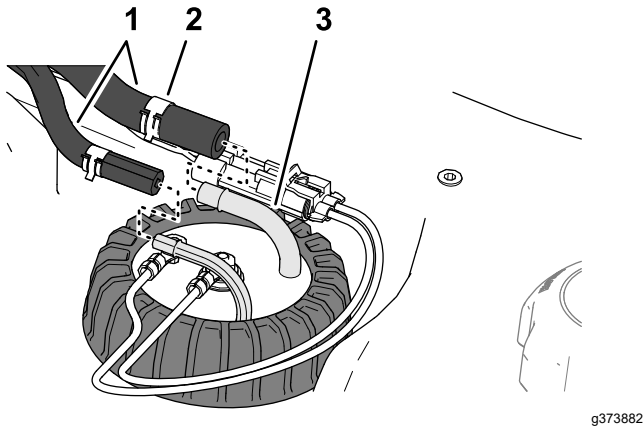

Figure 125
4. Move the clamps that secure the hoses to the fittings of the fuel sender inboard, and remove the hoses from the fittings (Figure 125).